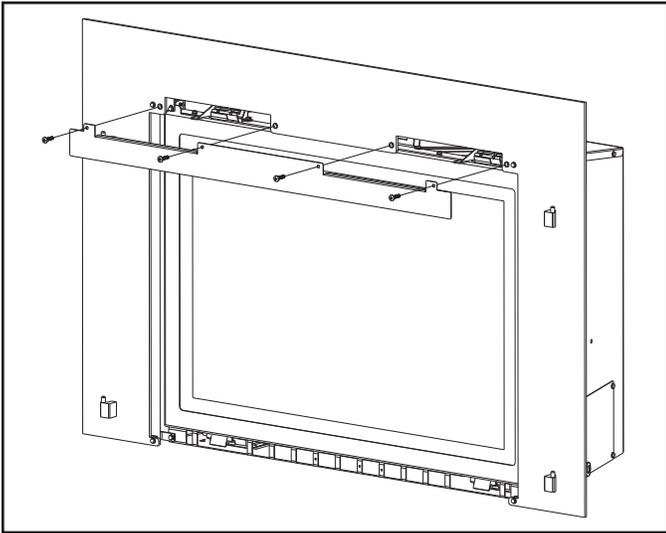

Figure 2
4. Attach the surround vanity panel with four 10-24 x 3/4 Phillips pan head screws. See Figure 2.